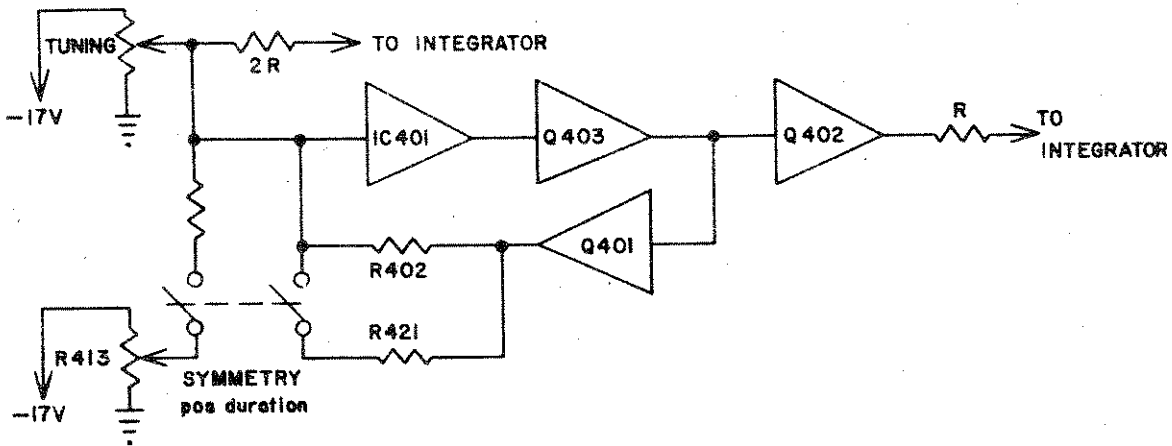

Figure 4. VC Amplifier and Symmetry Control
4.2 VC AMPLIFIER AND SYMMETRY CONTROL (See Figure 4)